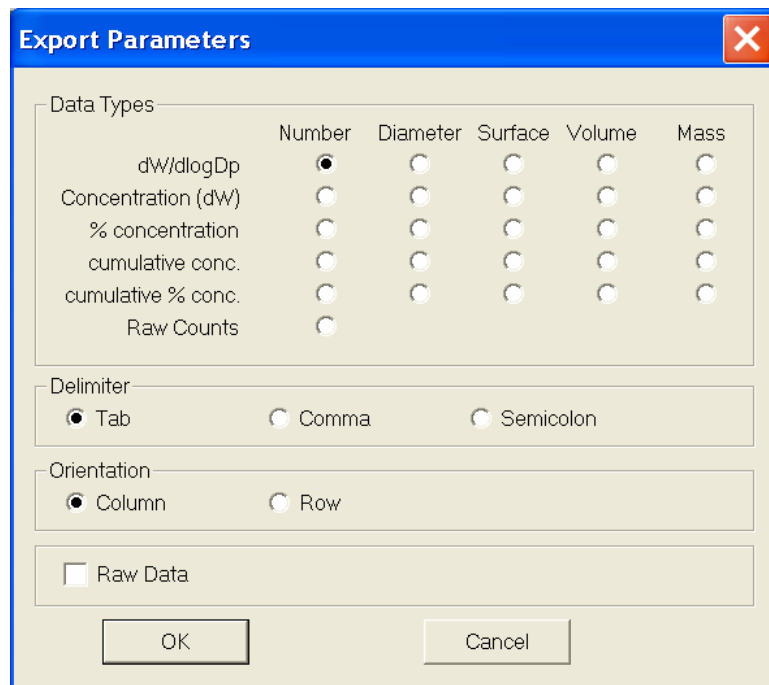

Figure 3-5
2. Select **File | Export to File**. An Export Parameters dialog box appears as shown in Figure 3-5.
3. Select **Run | Auto Export to File**. Select the type of data you want to export as well as the format you want to export the data in, using the Export Parameters dialog box (see Figure 3-5 on previous page).